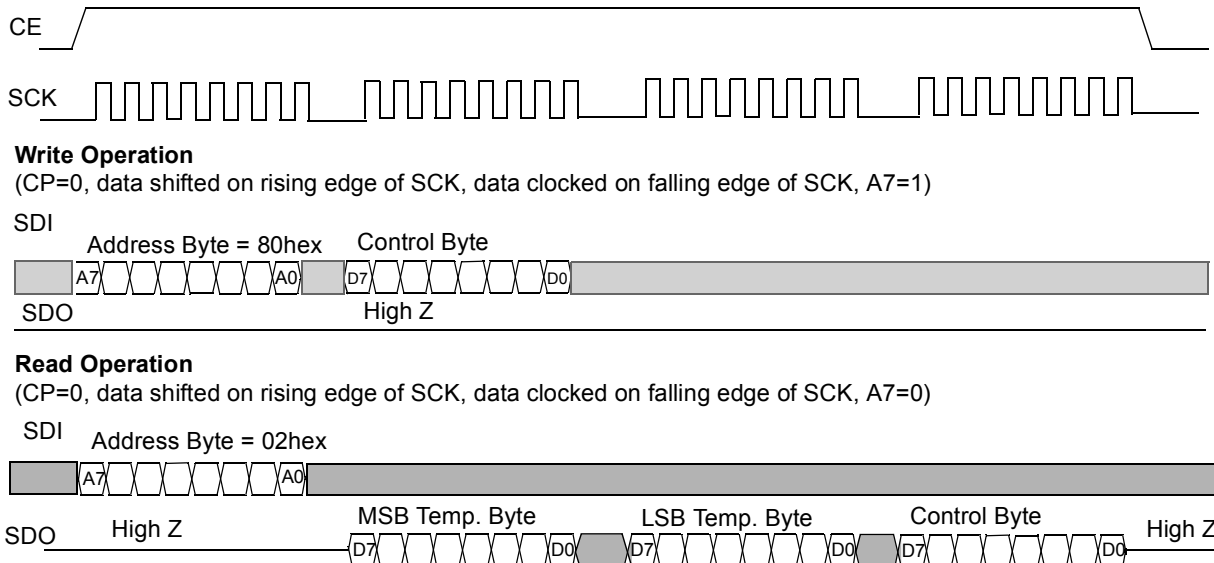

FIGURE 3-3: Serial Interface Timing Diagrams (CP=0).
The TC72 has the capability to function with either an active-high or low SCK input. The SCK inactive state is detected when the CE signal goes high, while the polarity of the clock input (CP) determines whether the data is clocked and shifted on either the rising or falling edge of the system clock, as shown in Figure 3-2. Table 3-3 gives the appropriate clock edge used to transfer data into and out of the registers. Each data bit is transferred at each clock pulse, and the data bits are clocked in groups of eight bits, as shown in Figure 3-3.
Data can be transferred either in a single byte or a multi-byte packet, as shown in Figure 3-3. In the 3-byte packet, the data sequence consists of the MSb temperature data, LSb temperature data, followed by the Control register data. The multi-byte read feature is initiated by writing the highest address of the desired packet to registers. The TC72 will automatically send the register addressed and all of the lower address registers, as long as the Chip Enable pin is held active.
The temperature and control register data is outputted from the TC72 using the CE, SCK and SDO lines. Figure 3-3 shows a timing diagram of the read operation. Communication is initiated by the chip enable (CE) going high. The SDO line remains at the voltage level of the LSb bit that is outputted and goes to the tri-state level when the CE line goes to a logic low level.
Data is clocked into the Control register in order to enable the TC72's power saving shutdown mode. The write operation is shown in Figure 3-3 and is accomplished using the CE, SCK and SDI line.